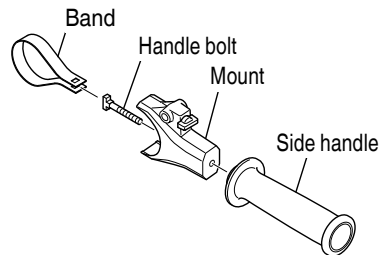

Fig. 2
- (1) Turn the side handle to dismantle. (Fig. 2)